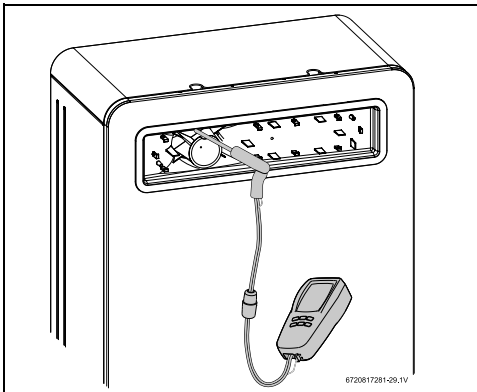

Fig. 50 Measuring port
- ▶ Insert analyzer probe into the measuring port (approx. 1.5" inserted), see fig. 50.